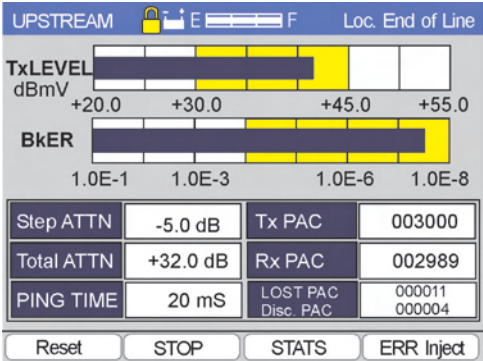

Figure 4-18
**Upstrm** - Pressing the UPSTREAM (F2) function from the Cable Modem Analysis screen will provide additional Upstream information as shown in Figure 4-18.
**Step ATTN** - Calculated change in Step Attenuator value based on the Limits criteria minimum and maximum Tx level. The default Minimum and Maximum Limits values are Min. 20 dBmV and Max. 50 dBmV. The mean (34 dBmV) becomes the ideal Tx level. The difference between the actual Tx level and this ideal Tx level will be the recommended Step Attn value. Thus, if this value Step Attn were inserted, the TX level should be equal to the mean value between the minimum and maximum TX level. The display in Figure 4-18 indicates to install a 5 dB Step Attenuator or to increase the existing Step Attn. Value 5 dB.